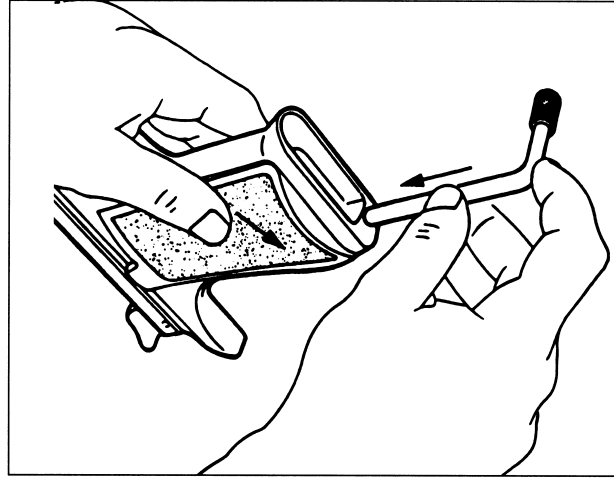

fig. 21 Mark I/VII/XIX
2. With both thumbs on the projection at the top of the butt, pull the front edges of the grip backward to remove it from the butt (fig. 21).